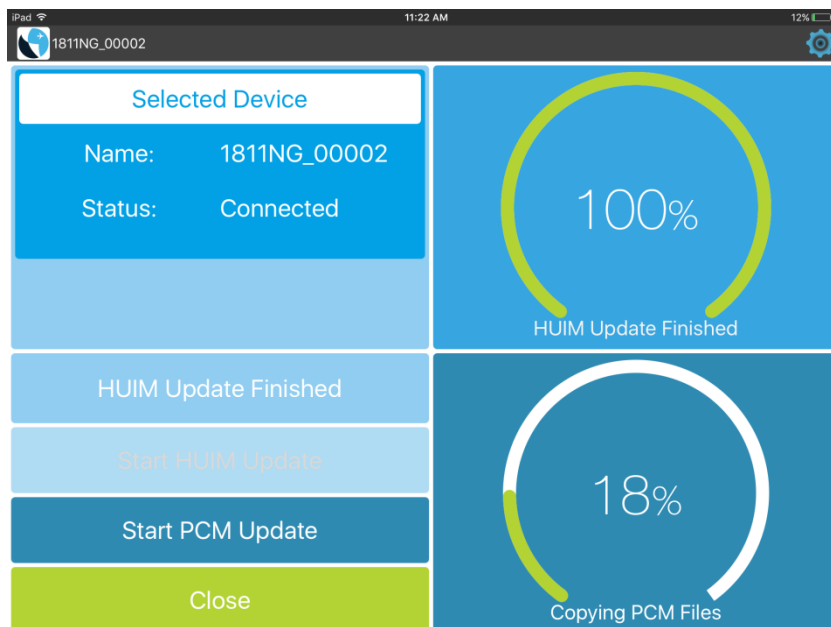

Figure E. 18 PCM Update Progress Screen
f) Touch “Start PCM Update” panel. Update takes about 2 minutes. Wait until progress indicator reaches 100% (Fig. E. 18).